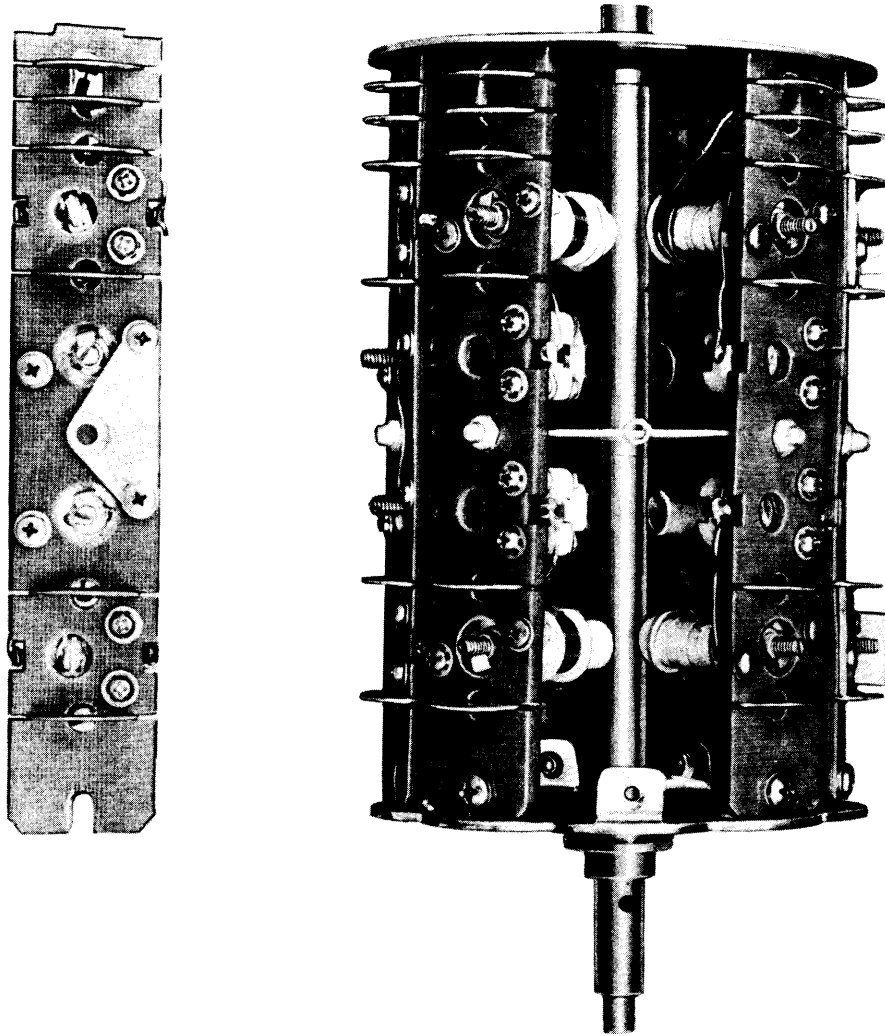

Figure 2-3. Turret Assembly, One Strip Removed
b. R.F. TUNER ASSEMBLY.—The signal leaves the attenuator through connector adaptor J102 and is carried by coaxial cable to the R.F. tuner assembly through J105. The turret carries a series of nine removable tuner assemblies. See Figure 2-3. Each of these assemblies contains all the inductances and trimmers for one band. The turret, complete with nine tuner assemblies, covers the frequency range of 0.3 to 400 megacycles. Contact with the inductances is made by means of silver plated knife-blade contacts mounted on the removable tuner strips. These blades are engaged by silver plated self-wiping spring clips on the tuning capacitor. The turret is operated from the front panel and the frequency band in use is indicated by a masking device which covers all of the tuning dial except the band being used. The four-section tuning capacitor C109 is part of the R.F. Tuner